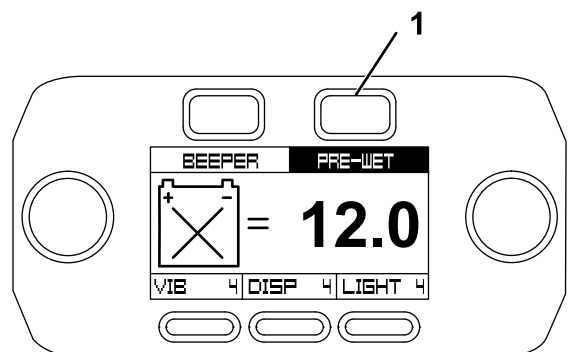

Figure 50
- Press the Pre-Wet button (Figure 50).